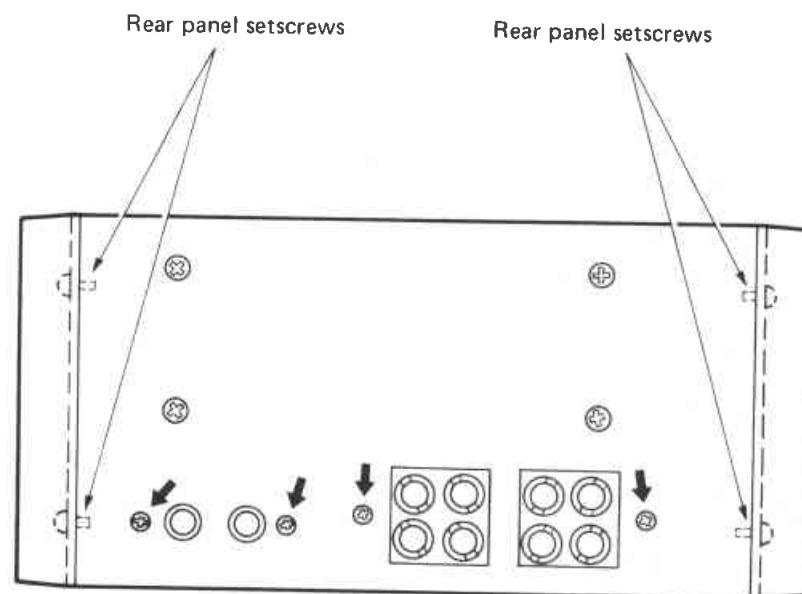

Fig. 1
(Refer to Fig. 1)
- 3) Remove the two screws at the left and the right of the rear panel. (Refer to Fig. 1)